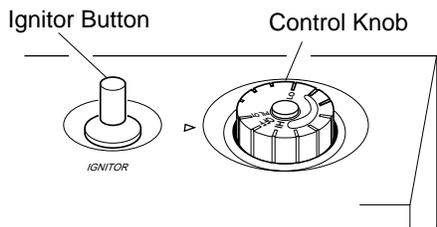

Figure 21 - Control Knob In The OFF Position
4. Wait five (5) minutes to clear out any gas. Then smell for gas, including near the floor. If you smell gas, **STOP!** Follow "B" in the safety information in column 1. If you don't smell gas, go to the next step.
5. Turn control knob counterclockwise  to the PILOT position. Press in control knob for five (5) seconds (see Figure 21).